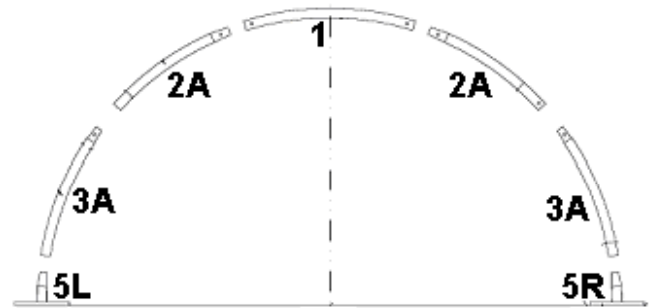

Figure 2 End Arch Assembly
Note that Sidewall Base Plates (7) and Base Plates End Standing Legs (6) are different and not interchangeable. Sidewall Base Plates are used only along Right Corner Base Flange (5R) for the End corners of the building. Secure the base flanges with either or both the Auger style anchor (20) and the Earth style anchor (21). Measurements shown in Figure 2 are to the center of the upright sockets on each Base Flange. The 40x30x15 building must be secured to a firm surface that can receive and retain anchors firmly in position. Both Auger Style and Earth Style anchors are included within this assembly kit. If securing to the ground or to blocks that might shift later, it is recommended that both style of anchors be used to avoid base flanges moving during or after assembly. If securing to a concrete pad, blocks, or other hard surfaces, anchors must be field supplied. Regardless of base material, the Base Flanges must be secured so they cannot be moved. Arches are tensioned at their base as they insert into the base flange sockets.
In order to assemble arches into a frame assembly, the Base Flanges (5L, 5R, 6, & 7) must be secured to the mounting surface. Refer to Figure 2 for an exact layout of all base flanges.